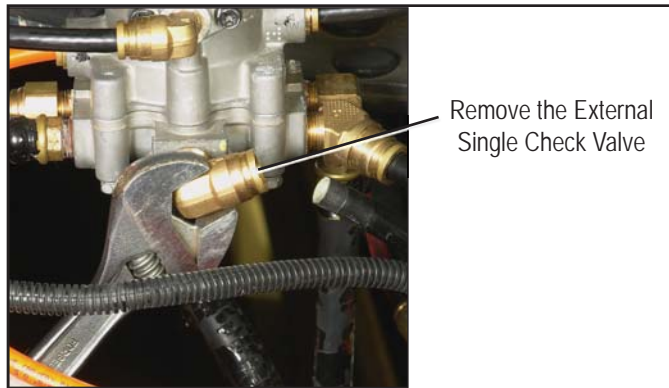
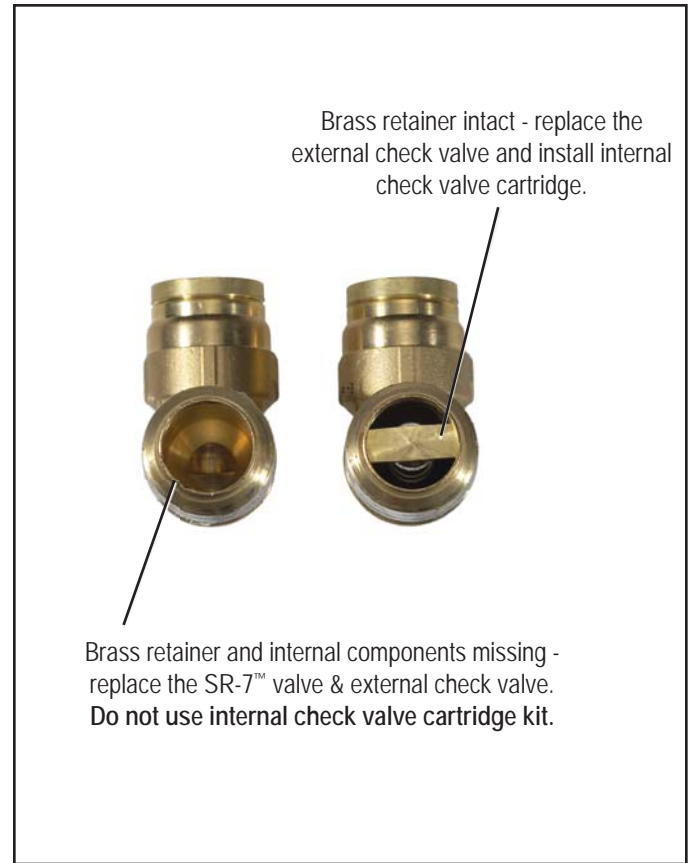

Figure 4 - REMOVING THE EXTERNAL SINGLE CHECK VALVE
Figure 6 - PARKER CHECK VALVE
5. Note the orientation of the external check valve. (Some SR-7™ valves may have a fitting between the external single check valve and the SR-7™ valve.) As shown in Figure 4, use a wrench to remove the external single check valve. **IMPORTANT: Inspect the outlet (threaded side) of the Parker single check valve to ensure the presence of check valve components. Verify that the brass retainer is present and intact.** Refer to Figure 6.